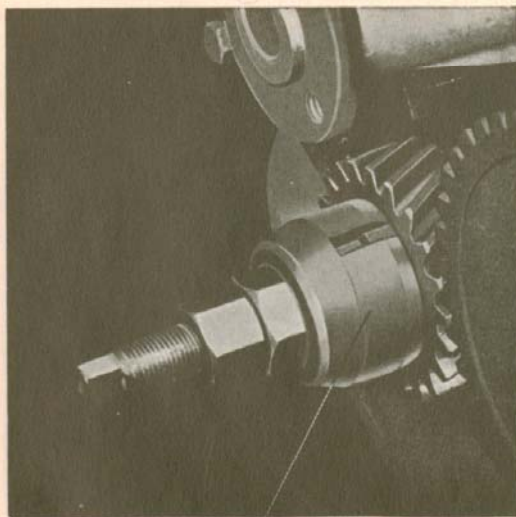
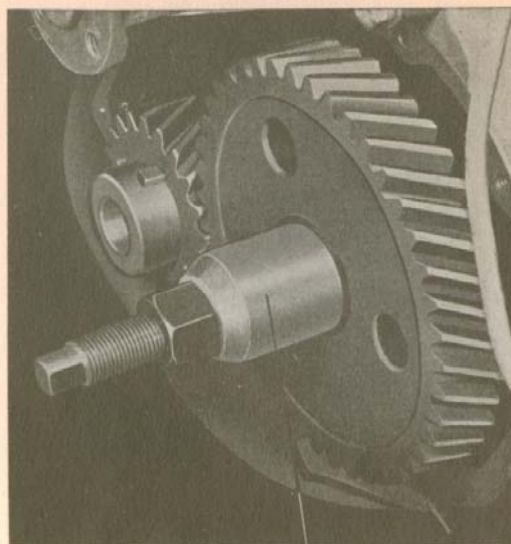
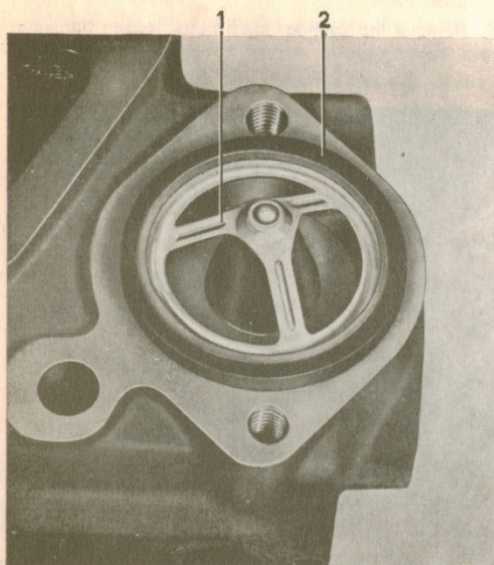

Fig. 1-26. Fitting the crankshaft gear
Fig. 1-27. Fitting the camshaft gear
**Fig. 1-29. Timing gear setting**
4. Fit the crankshaft gear with SVO 2407, Fig. 1-26. Fit the camshaft gear with tool SVO 2408, Fig. 1-27. Do not push the shaft in so that the seal washer at the rear end of the camshaft is forced out. Check that the gears have the correct relationship according to the markings shown in Fig. 1-29. There are flats on tool SVO 2407 to turn the crankshaft.